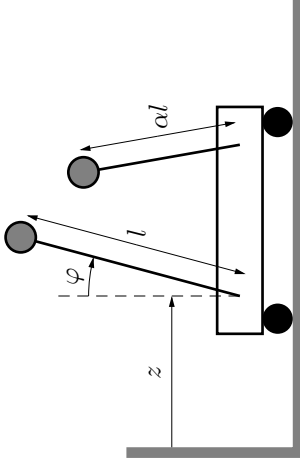

Figure 8.13a
a) Linearize the system to the left in Figure 8.13a around  $\varphi = 0$  and put the constants  $\ell$ ,  $m$ , and  $g$  to 1 and write the equations in the form  $\dot{x} = Ax + Bu$ .